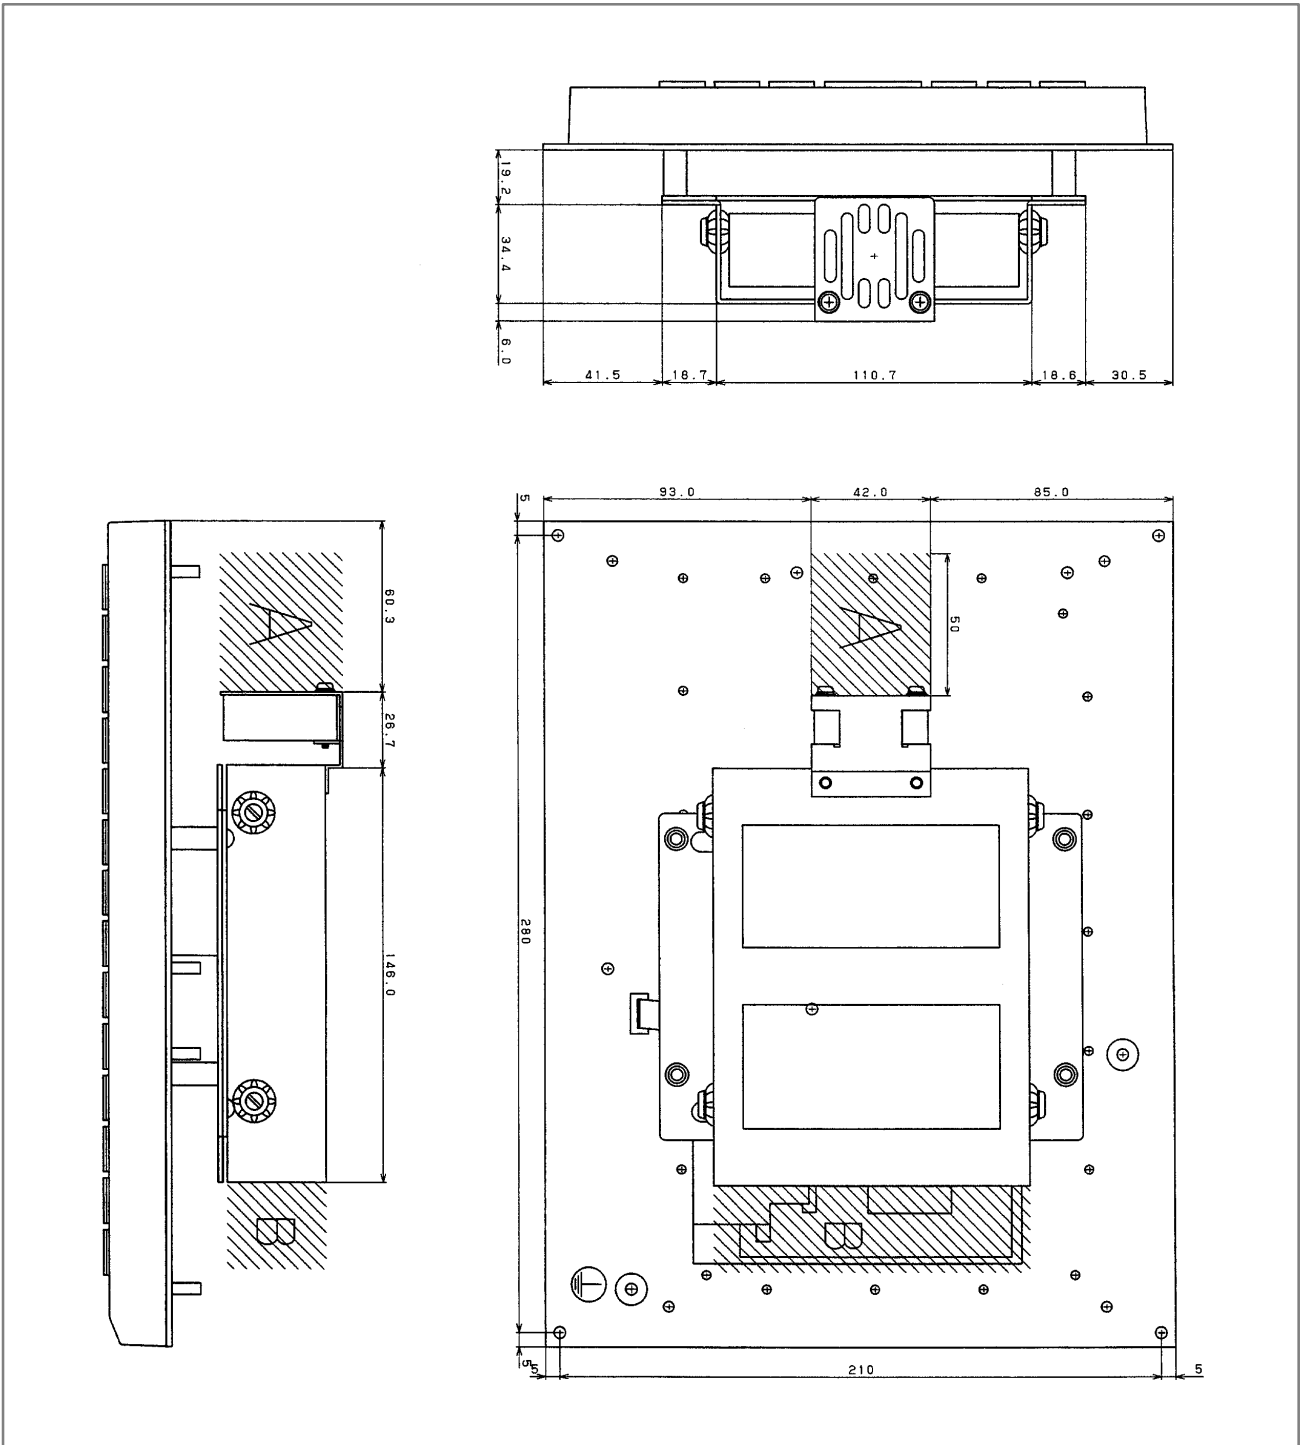

Fig. 7
- 3) Figures 7 to 12 show the external dimensions of the FA full keyboard and each of the units mounted on the full keyboard.